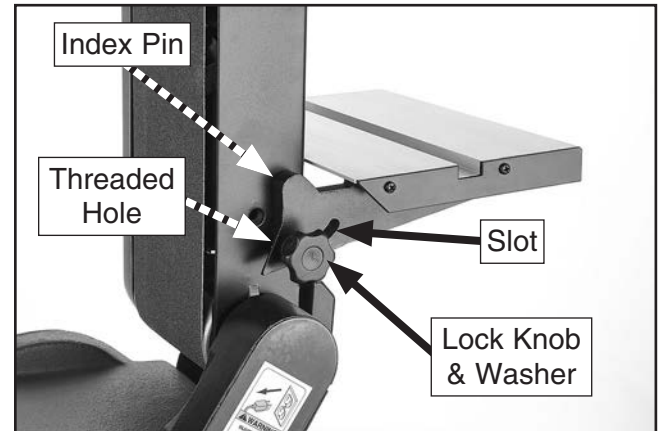

Figure 22. Installing work table on sanding bed.
5. Insert index pin of work table into mounting hole in sanding bed (see **Figure 22**).
6. Insert table lock knob with washer through slot in work table, and into threaded hole in sander body (see **Figure 22**).